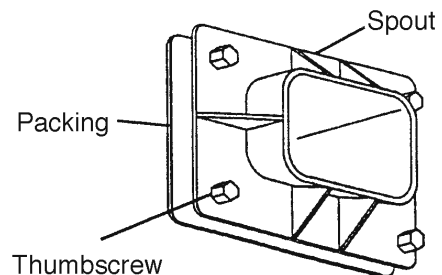

Fig. 9
7) Remove the thumbscrews, spout and packing. See Fig 9.